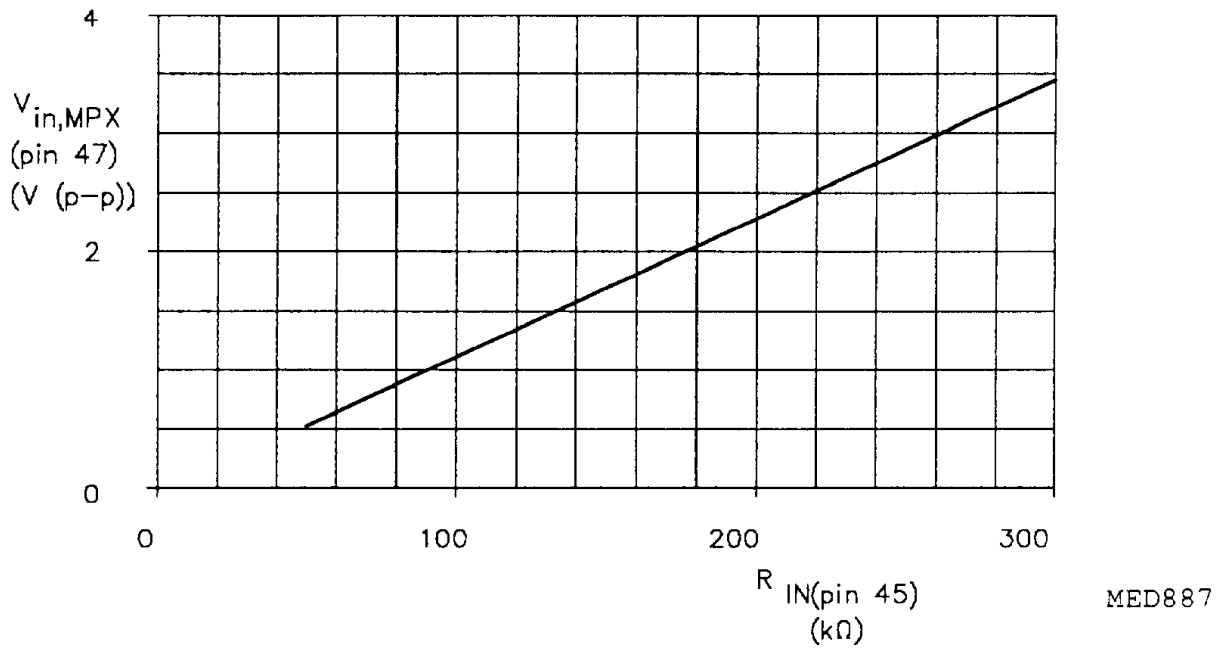

Fig.20 Adaption of MPX input to FM-demodulator output level by variation of the input resistor.
1. By changing the value of the input resistor at pin 12 the MPX input can be adapted to the level of the FM demodulator output (see Fig.20). A 3rd order low-pass filter $f_g = 90$ kHz at the MPX input provides extra 190 kHz ACI suppression. For AM the VCO is switched off. Interference gate at MPX demodulator outputs.